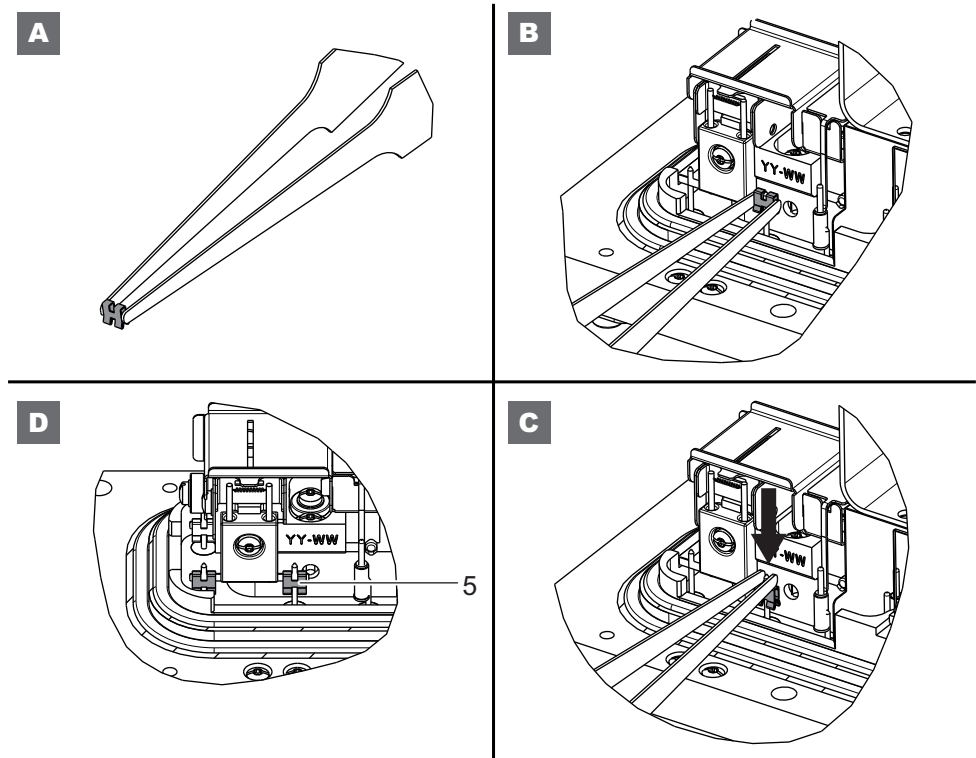

Fig. 10: Fitting of the fastening clip
- Fit the new filament in its housing against the 2 centring stops (7). Attach it with the screw (4) and washer supplied with the filament, using the Torx screwdriver.
- Take a fastening clip (5) with the flat pliers: this clip will ensure electrical contact between the filament and the cell (A Fig. 10).
- Fit the clip on the connector (6) and on the strip of the filament (8) (B Fig. 10).
- Push in the clip with the pliers until it stops (C Fig. 10).